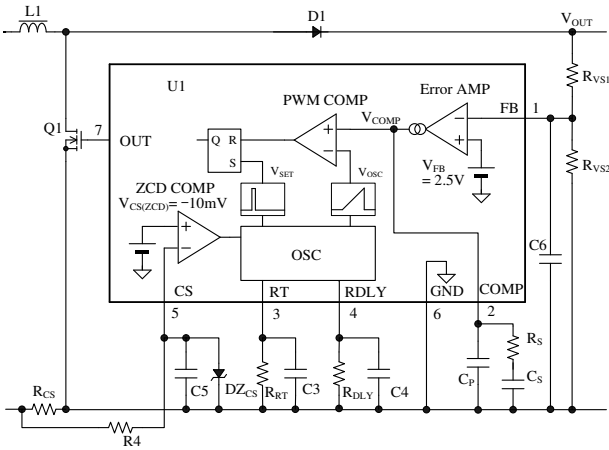

Figure 9-1 The IC peripheral circuit.
Figure 9-1 shows the IC peripheral circuit.
R_{DLY} shown in Figure 9-1 is for the adjustment of the turn-on delay time, t_{DLY} , of the Power MOSFET. As shown in Section 8.5 Zero Current Detection, adjust the value of R_{DLY} and turn-on timing to the bottom point of V_{DS} free oscillation waveform on actual operation in the application. The range of R_{DLY} is 15 k Ω to 56 k Ω .
R_{CS} shown in Figure 9-1 is current sensing resistor. R_{CS} is calculated by the following Equation (7), where Overcurrent Protection Threshold Voltage $V_{CS(OC)}$ is - 0.60 V and I_{LP} is calculated by Equation (1).